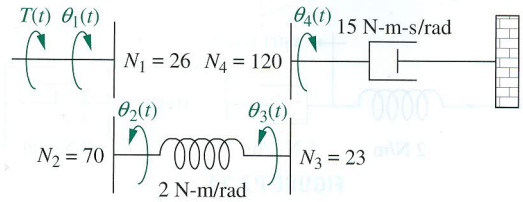

FIGURE P2.21
35. Find the transfer function,  $G(s) = \theta_4(s)/T(s)$ , for the rotational system shown in Figure P2.21. [Section: 2.7]